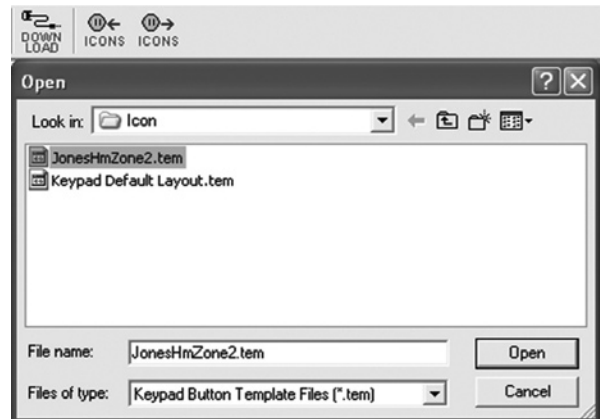

Figure 30 Importing an Icon Layout Template File
2. Once you have a zone configured with one or more keypad gangs (without icons on the numeric or function buttons), click the "ICONS<---" (Import) symbol in the toolbar. Refer to **Figure 30**.